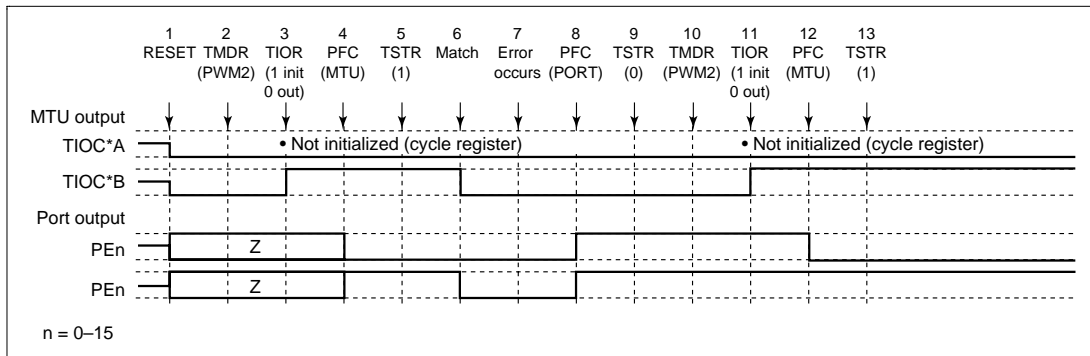

Figure 10.71 Error Occurrence in PWM Mode 2, Recovery in PWM Mode 2
(11) Operation when Error Occurs during PWM Mode 2 Operation, and Operation is Restarted in PWM Mode 2: Figure 10.71 shows an explanatory diagram of the case where an error occurs in PWM mode 2 and operation is restarted in PWM mode 2 after re-setting.